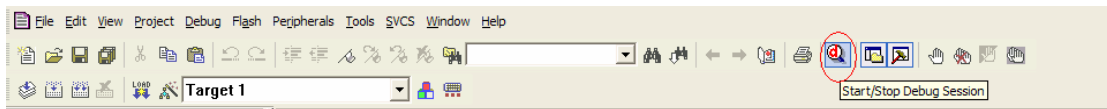

Figure 11
6. After rebuilt all target files, click debug button as figure 11 shows to start debug.